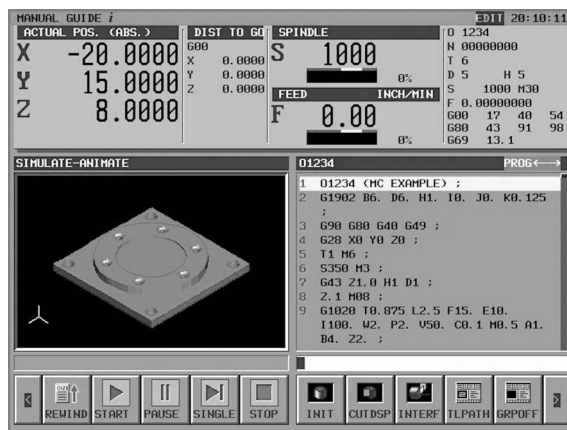

Figure 7-76 Milling Example SIMULATED
- Complete the entries in the Cutting Condition tab per Figure 7-76.